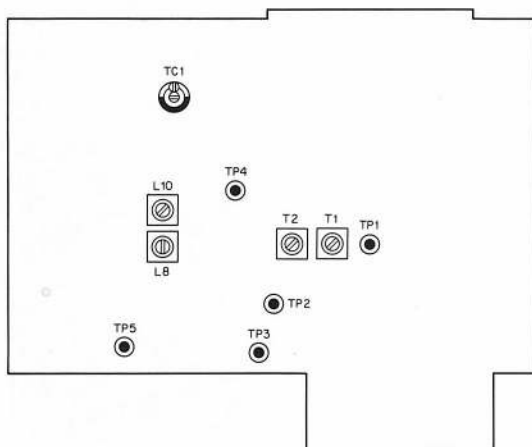

Fig. 33 Counter mixer unit (DG-1: Option)
- 2) Adjust the trimmer TC1 in the counter mix unit for $1 \text{ MHz} \pm 5 \text{ Hz}$ (refer to **Fig. 33**).
- 2) Connect RF VTVM to TP2 in the counter mixer unit (X48-1150-00) and adjust T1 and T2 in the same unit until the peak value is obtained (output is approx. 0.12 to 0.2V) (refer to **Fig. 33**).